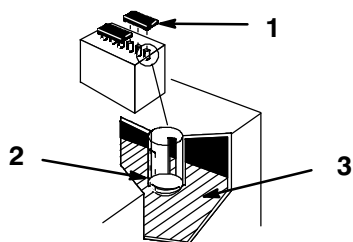

Figure 87
1. Open covers to see into the cells. The electrolyte must be up to the lower part of the tube (Fig. 87). Do not allow the electrolyte to get below the plates. (Fig. 87).
2. Lift off the filler caps (Fig. 87).
3. Slowly pour distilled water into each battery cell until the level is up to the lower part of the tube (Fig. 87).